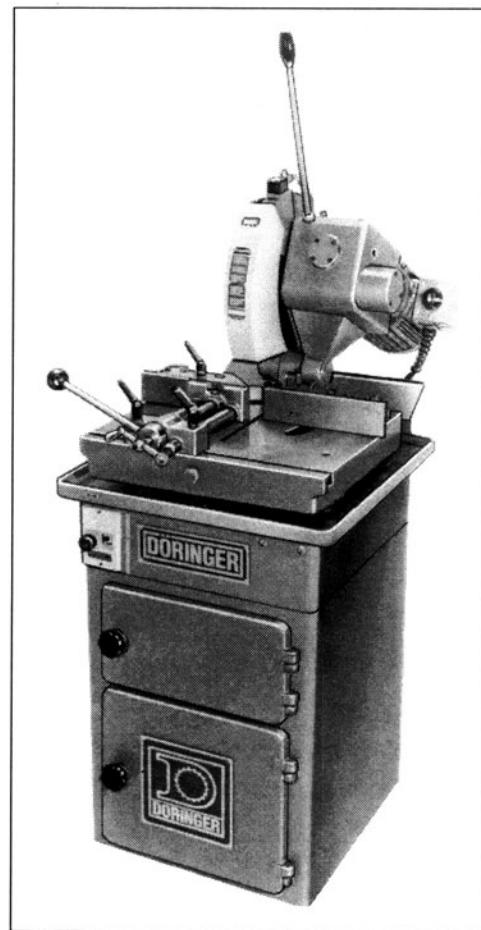

FIGURE 1-8 Cold cut saws work great for cutting off bar stock. This machine was made by Doringer Mfg. Co.
23. *Use a cold cut saw for cutting off bar stock. (See Fig. 1-8)*